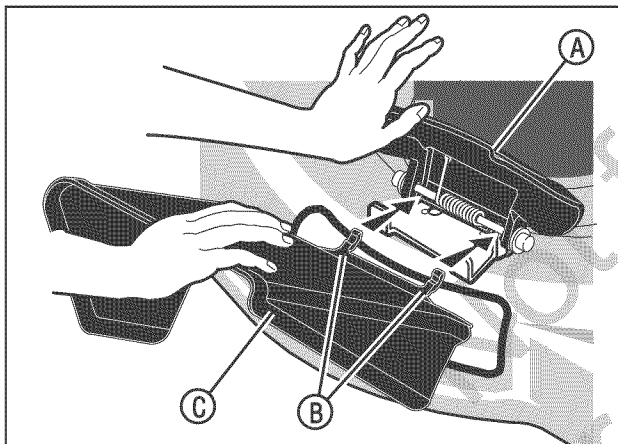
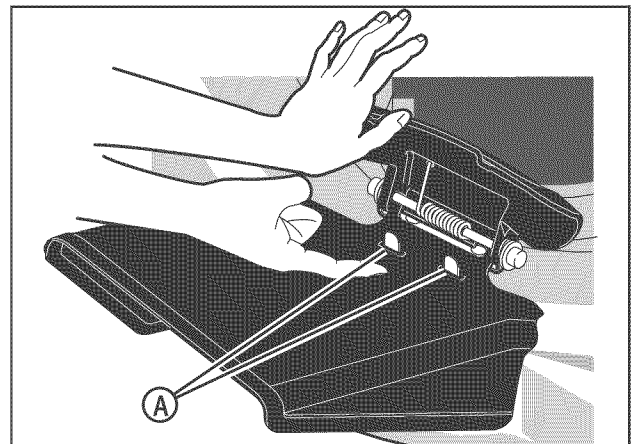

Figure 8: Installing the side discharge deflector
Figure 9: Side discharge deflector locking tabs
1. Raise the mulcher cover (A, Figure 8).
2. Slide the two tabs (B) on the side deflector (C) under the pivot pin.
3. Lower the side deflector. Make sure the locking tab (A, Figure 9) goes through the slot in the side deflector.